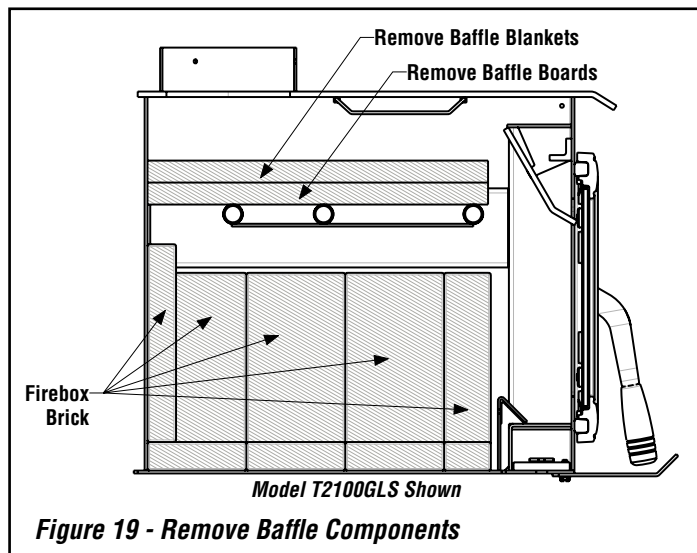

Figure 19 - Remove Baffle Components
Step 1. Carefully remove the baffle blankets and baffle boards (see **Figure 19**).